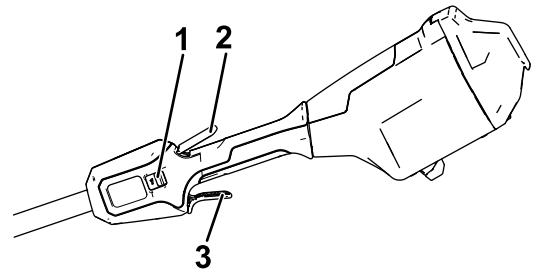

Figure 10
6. To start the machine, squeeze the lockout trigger, then squeeze the run trigger (Figure 10).